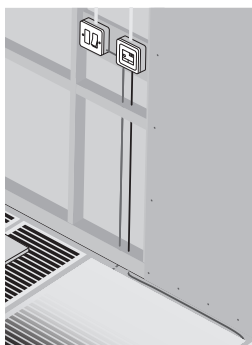

Fig.3. Prepare for thermostat
2. Prepare the installation for the thermostat. (fig.3)